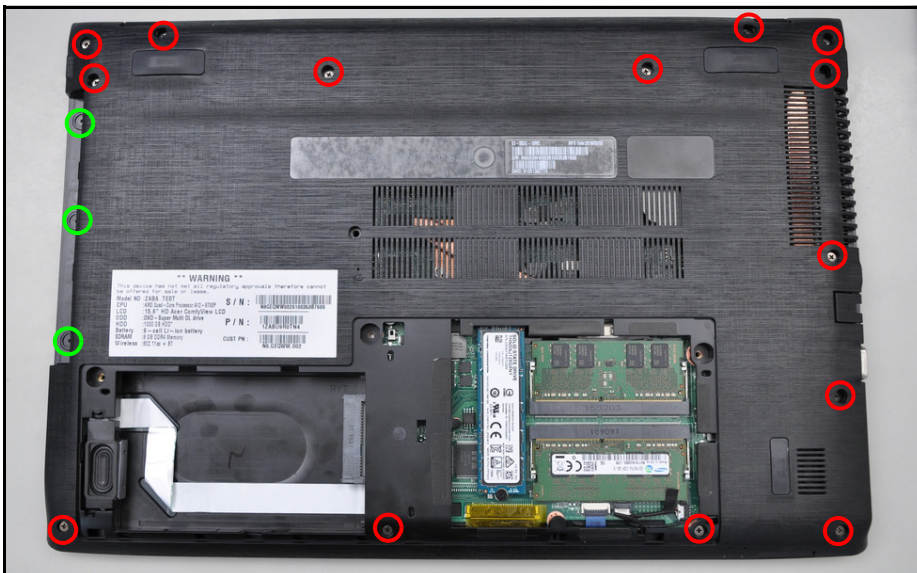

Figure 3-111. Replacing the Base Cover
3. Install and secure seventeen (17) screws to the base cover (Figure 3-111).